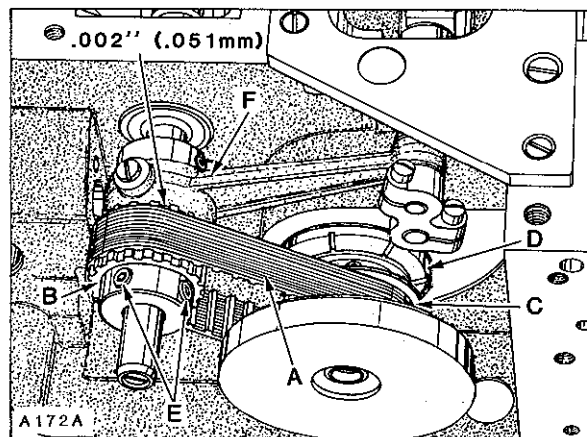
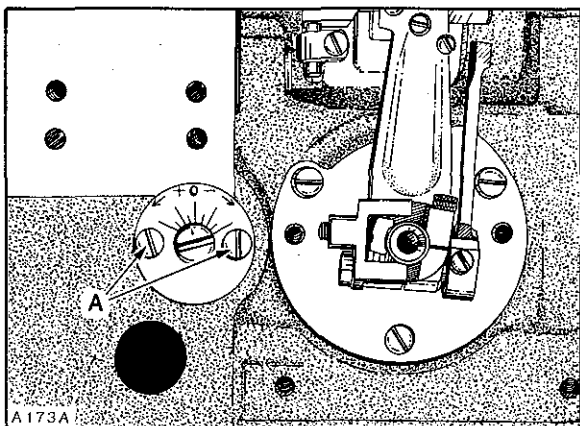

Fig.4
Fig.5
**NOTE:** End cover has been removed for clarity in Figure 4, but **MUST BE IN POSITION WHILE MAKING THE FOLLOWING ADJUSTMENTS.**
Looper drive belt, (A, Fig. 4) has proper tension if, when turning handwheel in operating direction to position looper in the center of its (right to left) travel.... there is no noticeable (right to left) play in the looper mechanism. There should be approximately 1/8 inch (3.2mm) deflection in looper drive belt when pressing firmly with thumb, midway between sprockets (B and C). Adjustment can be made by loosening two screws (A, Fig. 5) and turn looper module (D, Fig. 4) counterclockwise to tighten belt or clockwise to loosen, as viewed in Figure 4. Retighten screws (A, Fig. 5).
Rotate handwheel in REVERSE direction until pin in looper holder again makes contact with gauge plate and note the reading on the gauge. A variation of (1) graduation on the scale is permissible. If the reading is above "O", loosen screws (E, Fig. 4) and turn rear looper drive sprocket (B) towards the operator (clockwise as viewed in Figure 4). If the reading is below "O", turn sprocket away from operator (counterclockwise as viewed in Figure 4). Temporarily snug screws.
Rotate handwheel in OPERATING direction until pin in looper holder contacts gauge plate and note the reading on scale. If the reading is above "O", loosen screws (E) and turn sprocket (B) away from operator (counterclockwise as viewed in Figure 4). If the reading is below "O", turn sprocket towards the operator (clockwise as viewed in Figure 4). Temporarily snug screws.
Turn handwheel in reverse direction to position looper point even with the left side of RIGHT needle and check the distance from the eye of needle to the bottom of looper blade. If the distance was greater when handwheel was turned in operating direction, (as viewed in Sketch B) loosen screws (E, Fig. 4) and turn rear looper drive sprocket (B) away from operator (counterclockwise as viewed in Figure 4). If the distance was greater when handwheel was turned in reverse direction, (as viewed in Sketch C) turn sprocket towards the operator (clockwise as viewed in Figure 4). Temporarily snug screws.
Before tightening screws (E, fig. 4) securely, be sure to have .002 inch (.051mm) clearance between sprocket (B) and needle guard drive connecting rod (F).